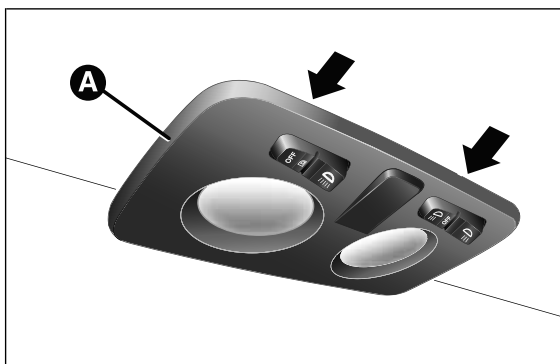
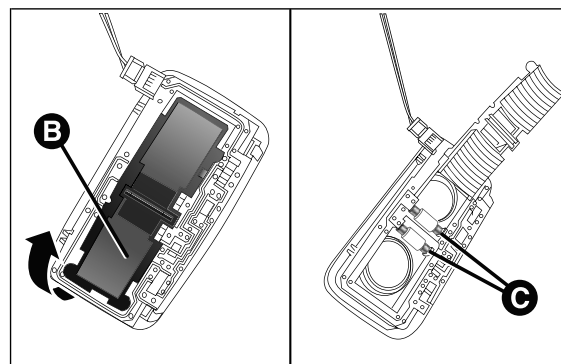

fig. I 34
fig. I 35
- ☐ remove the roof light A fig. I 34 working at the points indicated by the arrows;
- ☐ open the flap B fig. I 35 and replace the bulbs C releasing them from the side contacts. Make sure that the new bulbs are correctly secured between the contacts;
- ☐ reclose the flap B fig. I 35 and fix the roof light A fig. I 34 in its housing making sure that it is locked.